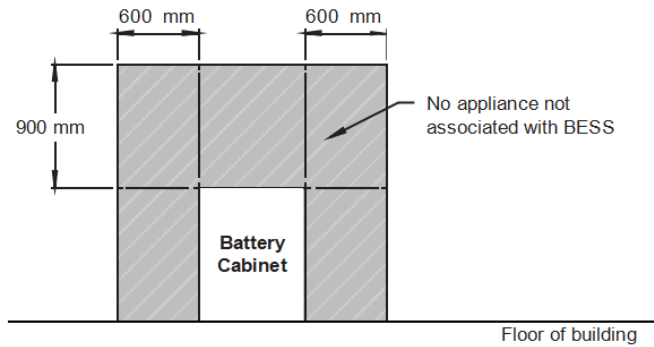

Figure 4 Diagram of Battery Cabinet Clearance
- As shown in Figure 4 above, the cabinet is supported by the mounting plate fixed on the wall.